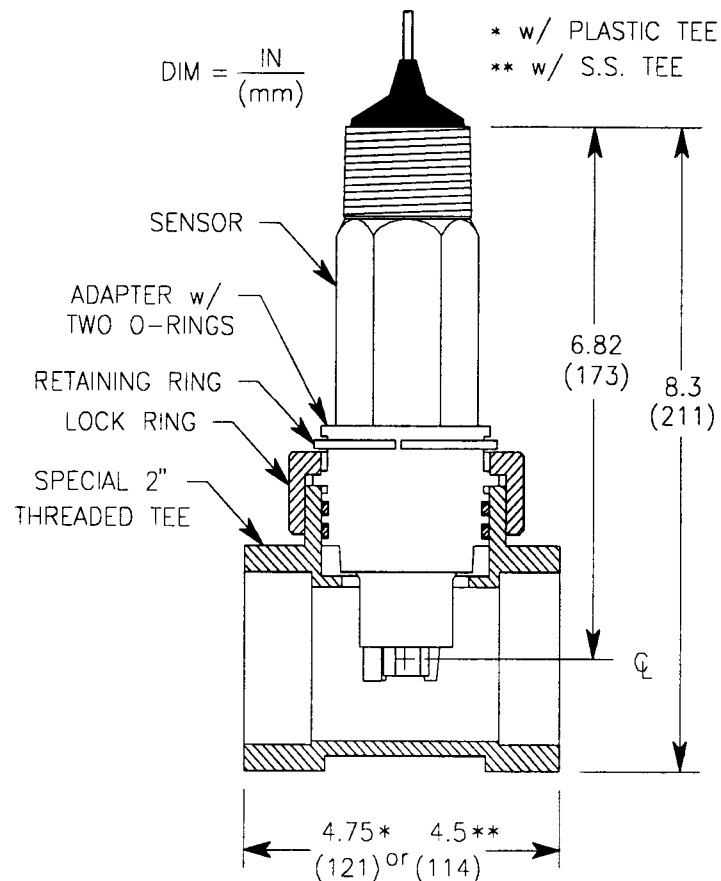

FIGURE 2-3 Union Mounting Details
The union-mount style sensor is installed by using a special 2-inch threaded mounting tee (Figure 2-3).
3. Place lock ring onto adapter as shown in Figure 2-3 (threads on lock ring toward O-rings). Slip retaining ring over top of lock ring to hold it in place.